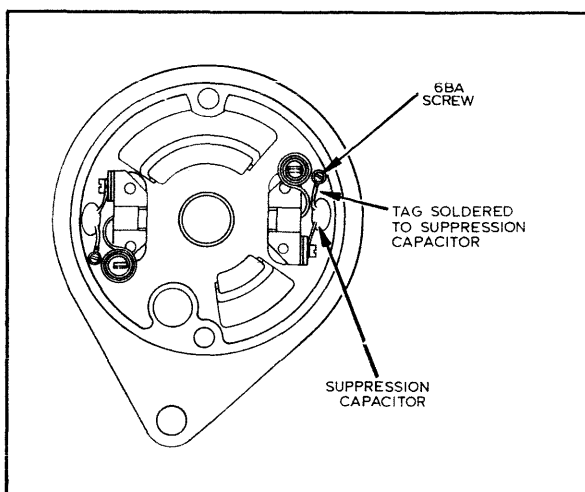

Fig. 9 Dynamo End Plate
2. If interference persists after checking brushes and commutator refer to Fig. 9 and fit two 470pF disc ceramic suppression capacitors close to the brushes as indicated.